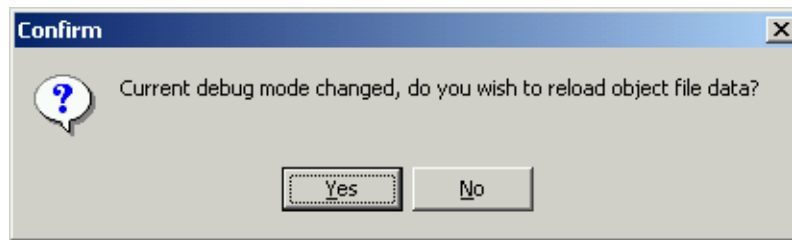

Figure 17. Confirm Window
10. Click Yes in Confirm window. (Figure 17)